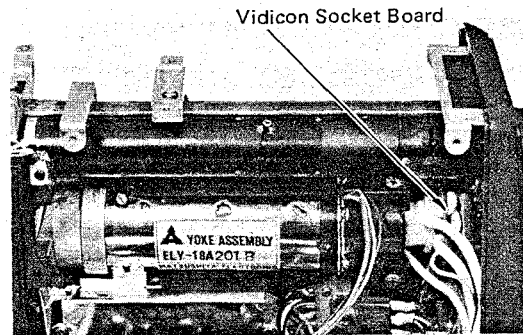
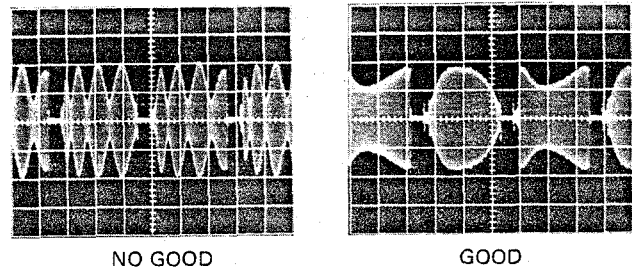

Fig. 6-4-8
Fig. 6-4-9
- Rotate the vidicon by means of the vidicon socket board (Fig. 6-4-8) (CAUTION, DC1600V) and stop at the point where the waveform becomes as flat as possible. (Fig. 6-4-9)